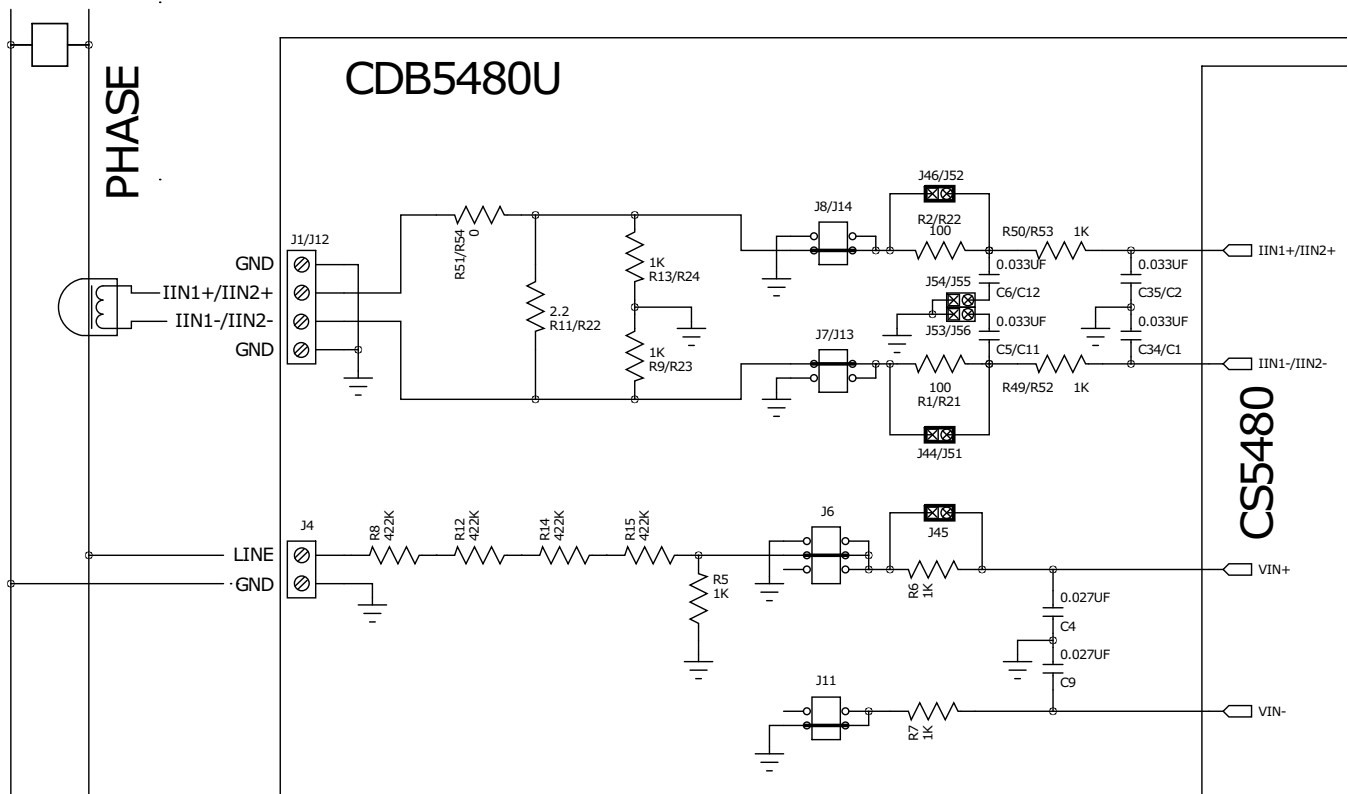

Figure 7. Current Transformer Power Meter
A slightly more expensive option is to use a current transformer (CT) to connect the AC current to the CDB5480U evaluation board. Figure 7 depicts the voltage and current connections for a CT sensor and its associated filter configurations.